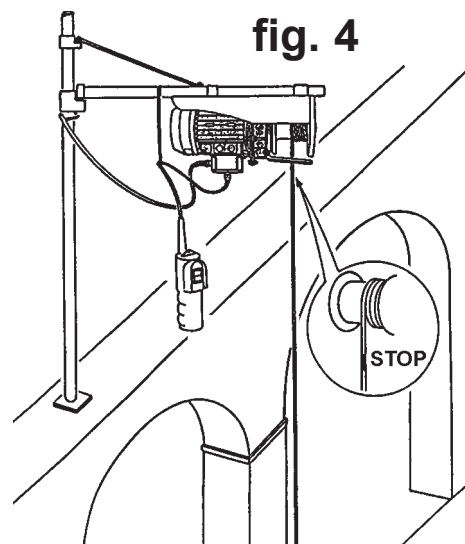

fig. 4
1. It is important not to completely empty the cable drum and therefore the cable has a marker to indicate maximum cable length. DO NOT allow this marker to move significantly below the cut-out arm (see fig.4).